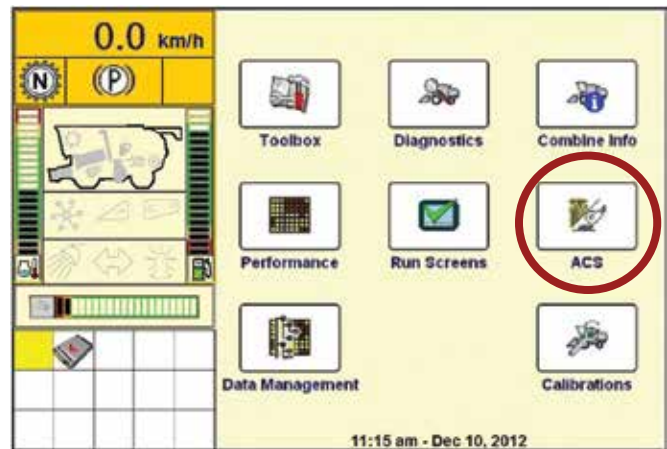

Figure 11.1
- ACS work settings page will be displayed, press “Working” (see figure 11.1)